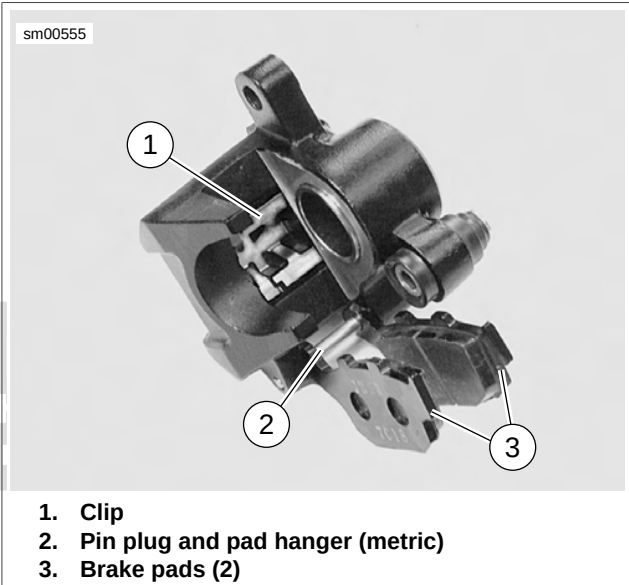

Figure 2-66. Brake Pads
- 1. See Figure 2-66. Remove pin plug (5) and pad hanger (metric) to free brake pads.
- 2. See Figure 2-66. Remove spring clip (1).
1. See Figure 2-66. Place clip (1) inside caliper body as shown.
3. See Figure 2-66. Install brake pads (3) using pin plug and pad hanger (2).